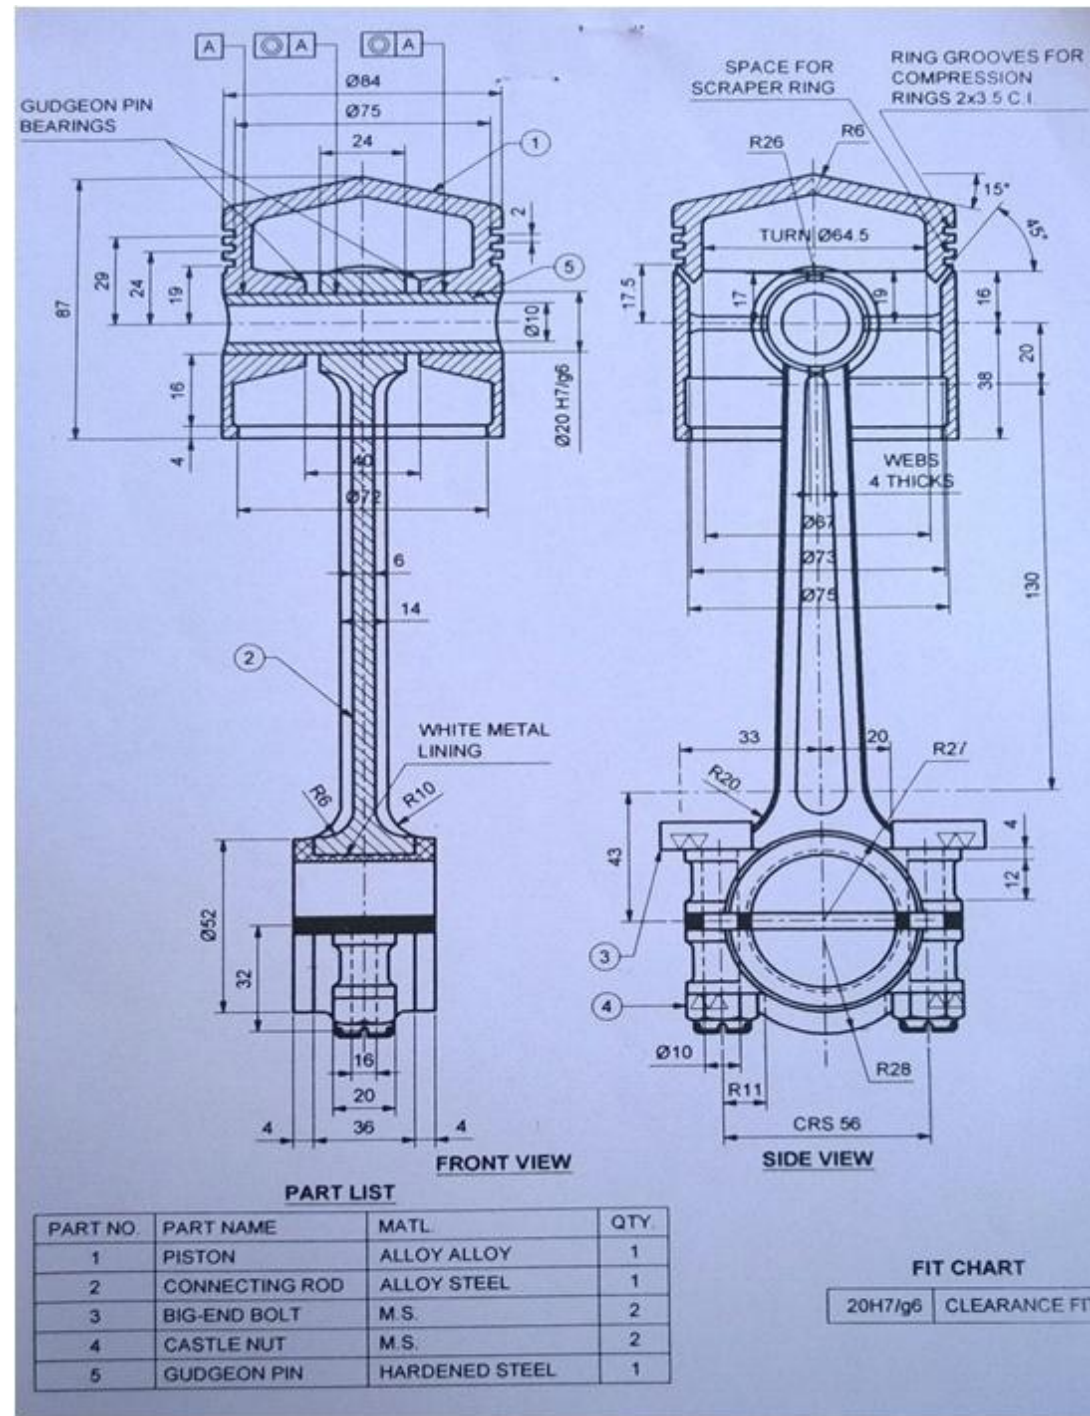

Figure 11.
3. Figure 11. Shows the sectional front view, top view and sectional side view of an assembly of the piston and connecting rod. Draw the part drawings of the components.